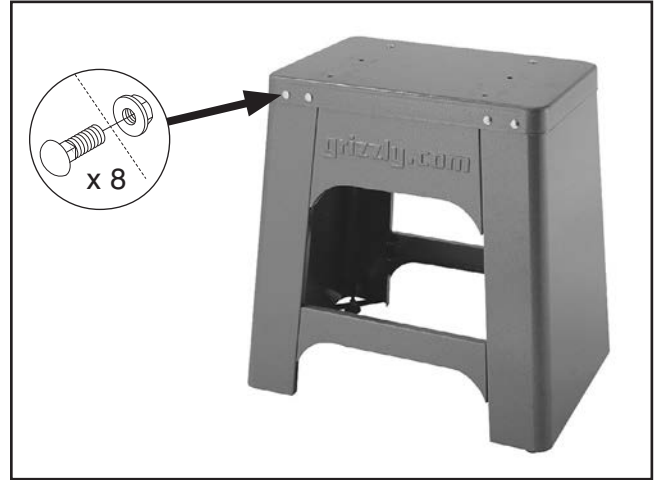

Figure 12. Stand top attached.
4. Turn the stand assembly upright and attach the top, as shown in **Figure 12**, with (8) $\frac{5}{16}$ "-18 x $\frac{5}{8}$ " carriage bolts and (8) $\frac{5}{16}$ "-18 flange nuts.